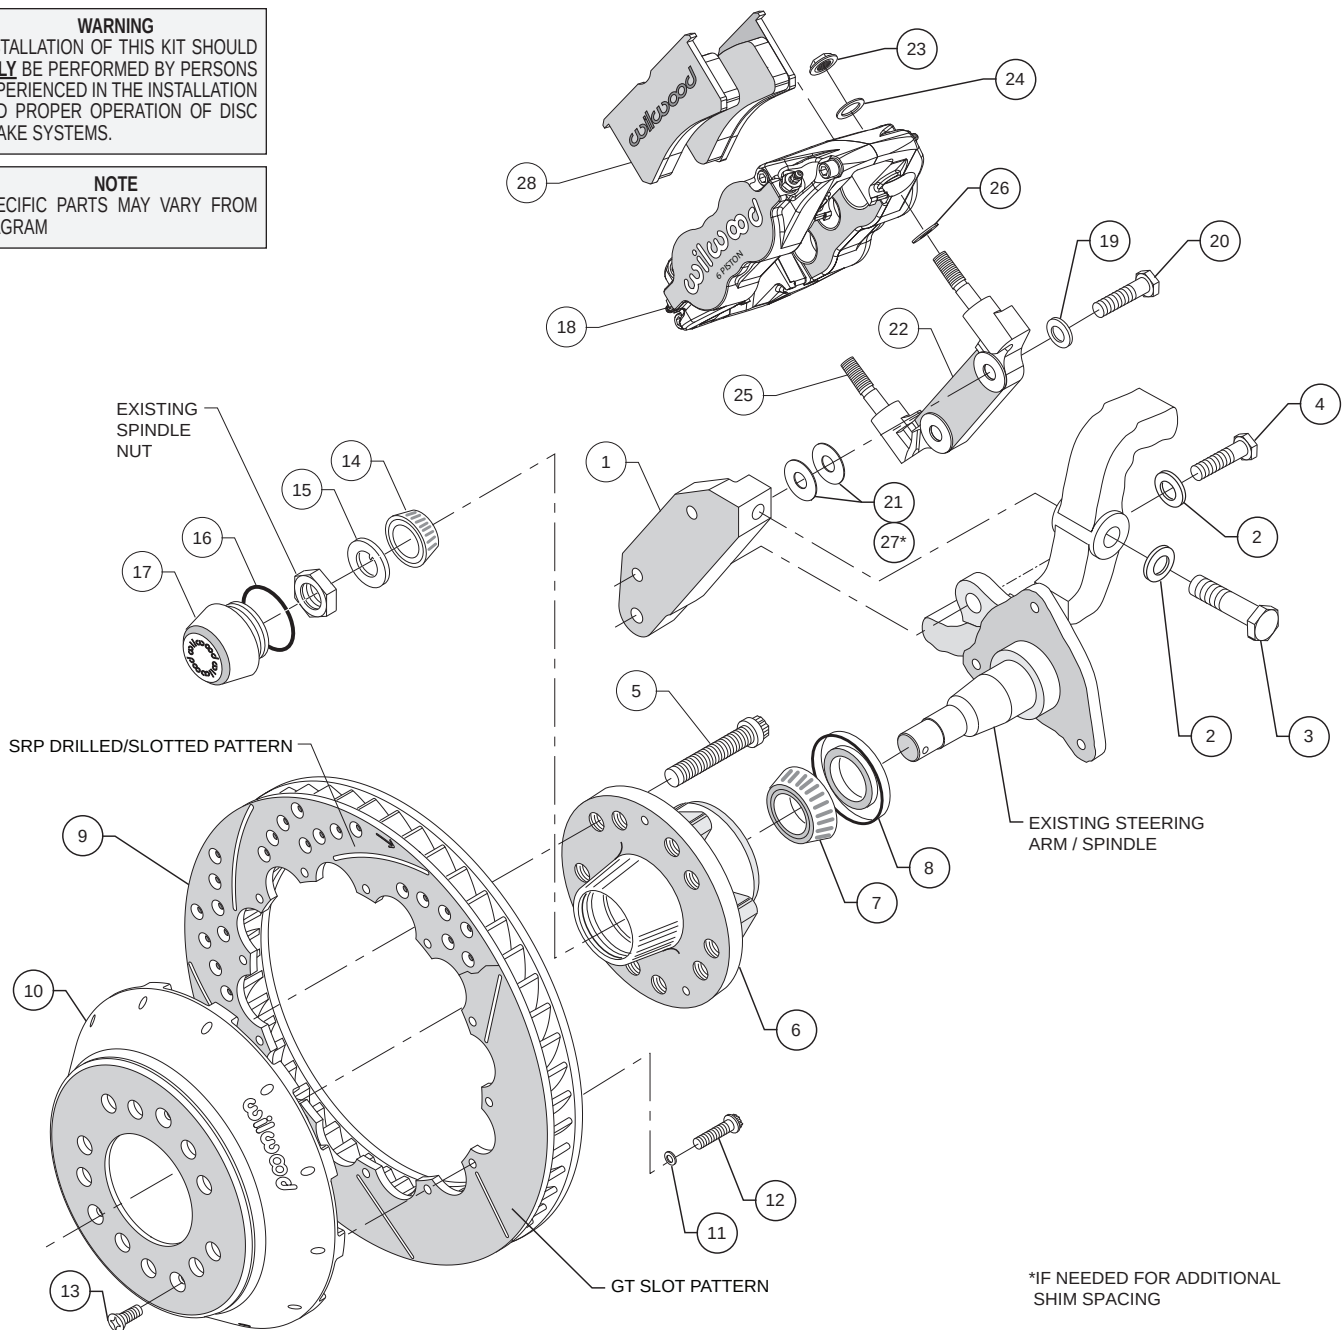

Figure 1. Typical Installation Configuration
- Mount the radial mount caliper bracket (22) to the first "flat" caliper mounting bracket (1) from the far side using washers (19) and bolts (20), as shown in Figure 1. Initially place two .030 thick shims (21) between the two brackets (1 and 22). Temporarily tighten the bolts.
•**NOTE:** This kit contains distinct right and left hand calipers that must be mounted in a specific direction, as described below. Lubricate the caliper mounting studs (25) with lightweight oil. Initially place one .035" thick shim (26) on each stud as shown in Figure 1. Mount the caliper (18) onto the bracket (1) using lock nuts (23) and washers (24), Figure 1. Ensure that the caliper is mounted so that the largest pistons are at the rotor exit end of the caliper, in relation to the direction of rotor rotation. Temporarily tighten the lock nuts and view the rotor through the top opening of the caliper. The rotor should be centered in the caliper. If not, adjust by adding or subtracting .030" shims (21), or add .015" thick shims (27), as necessary between the radial mount bracket (22) and the flat bracket (1). Always use the same amount of shims on each of the two mounting bolts. Once the caliper alignment is correct, remove the bracket mounting bolts (20) one at a time, apply red *Loctite*® 271 to the threads, and torque to 42 ft-lb.